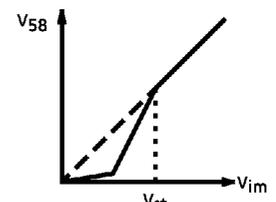

Figure 1
- (1) Input signal 2 to TP60 and TP63.
- (2) $V_{57} = 3.15V$.
- (3) Measure picture signal amplitude at pin 58 while varying V_{im} from 0IRE to 100IRE. $\rightarrow V_{58}$.
- (4) Obtain V_{st} as the figure1.